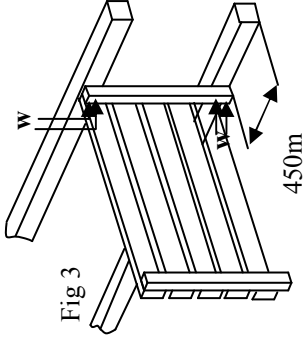

Fig 3
4. Turn the assembly onto its back so that the seat may be fitted. Be sure to support the side sections during this step. Fix the seat in place as shown in Fig 3.